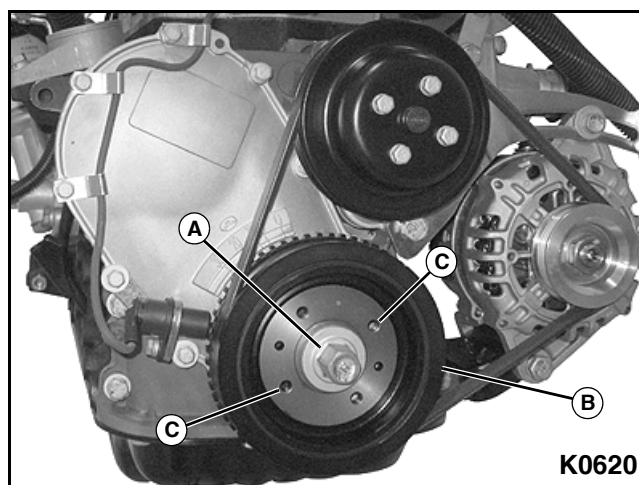

Figure 3-83
2. Remove mounting bolt (A) from crankshaft vibration dampener (B). **See Figure 3-83.**